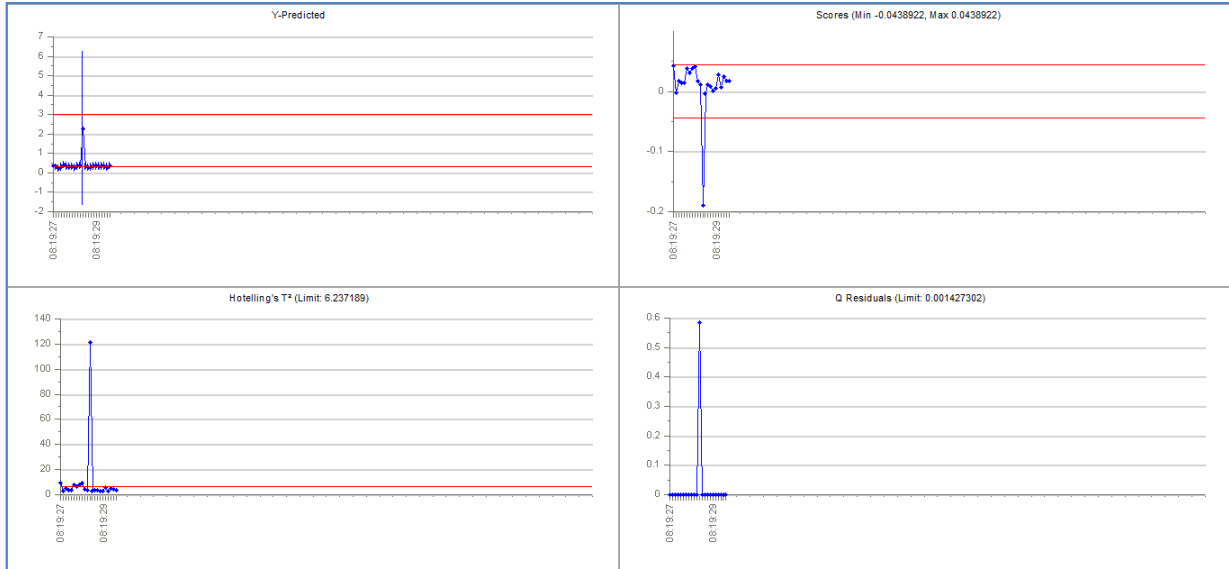

Figure 44 - Plot View as defined in the Configuration Method
The output view for a classification is the *Membership table*, which has a column for each class model, and a row for each new sample being classified. The sample class is given by a one (1) in the column that corresponds to the sample's class membership, with zeros (0) in the other columns (See Figure 44).
The pre-configured plots, setup in the configuration method, are the default outputs for prediction or projection methods. When a configuration method is started a plot window appears, see Figure 44. A maximum of four plots can be displayed at one time. The upper and lower limit for the Y-Predicted values, set in the *Output* tab, will be displayed. The Y-Predicted values which cross these limits are highlighted in red in the plot. As a new sample is read in, the corresponding Y-Predicted value is plotted in real-time. By default a scrolling graph is displayed with points disappearing beyond the Y-axis as set in the configuration method.